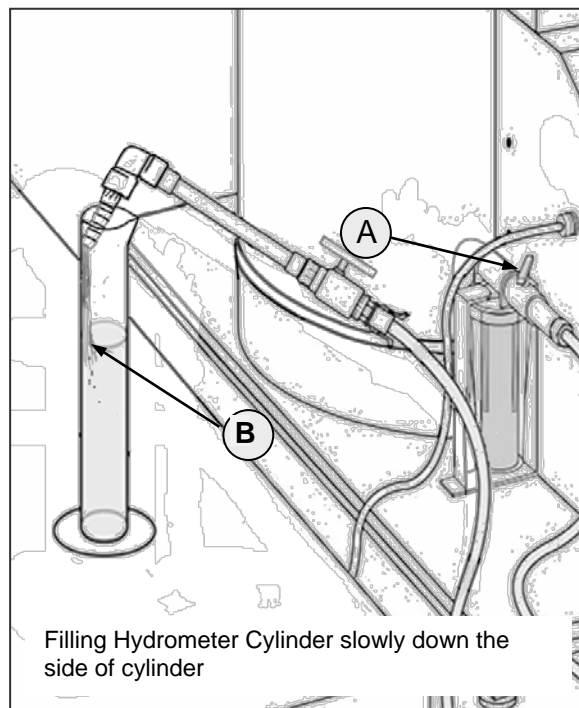

Figure 12
4. Slightly OPEN the Main Transfer Ball Valve next to the Filter Housing (Figure 12, item A).
- Slowly OPEN the Transfer Nozzle Valve until solution starts to slowly accumulate into the Hydrometer Cylinder. Allowing solution to fill down the side of the beaker minimizes the creation of bubbles within the solution (Figure 12, item B).